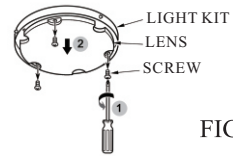

FIG.11
- 1.Remove lens from LED light. (see Fig.11)